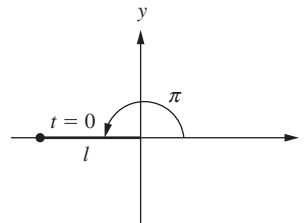

Figure P6.6 Rotating one-link robot starting at $\theta = 180^\circ$.
- 6-6.** The tip of a one-link robot is located at $\theta = \pi$ rad at time $t = 0$ s as shown in Fig. P6.6. It takes 3 s for the robot to move from $\theta = \pi$ rad to $\theta = 3\pi$ rad. If $l = 5$ cm, plot the x - and y -components as a function of time. Also find the amplitude, frequency, period, phase angle, and time shift.